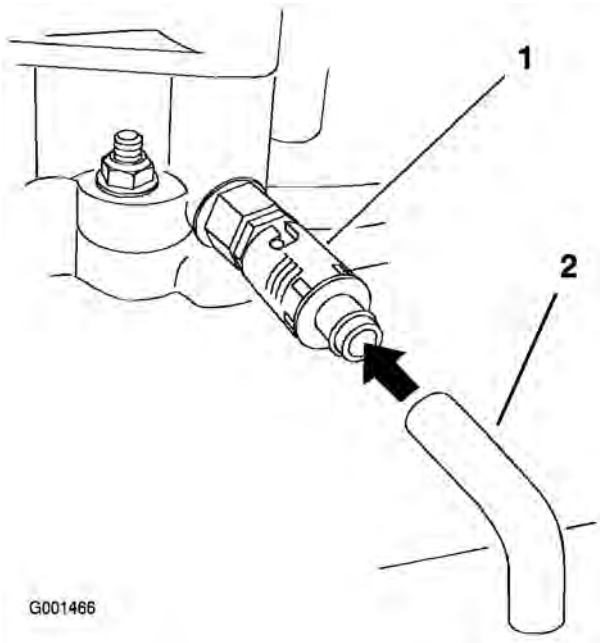

Figure 38
3. Grease the fittings on the 3 spindle bearings (Fig. 38).
4. Grease the idler pulley pivot (Fig. 38).
- Place a pan below the drain hose. Rotate oil drain valve to allow oil to drain (Figure 38).
- Remove the drain hose (Figure 38).